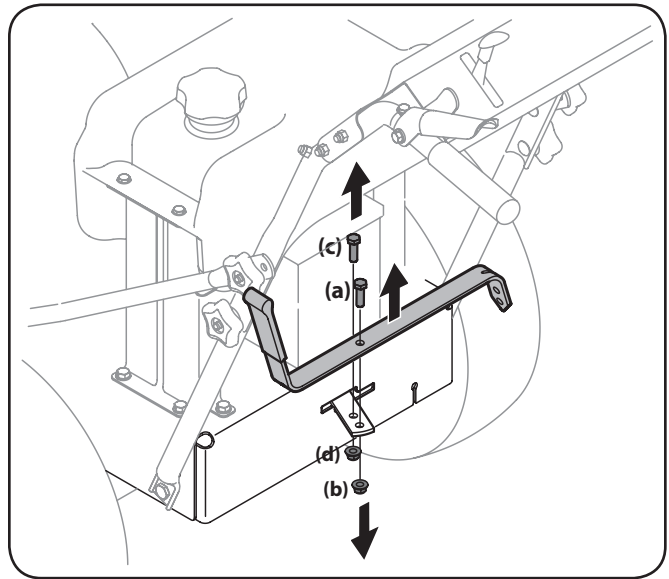

Figure 3-5
1. Remove the screw (a) and the lock nut (b) that secures the shift lever to the shift lever plate. See Figure 3-5.
2. Remove the remaining screw (c) and nut (d) from the lower shift lever plate. See Figure 3-5.